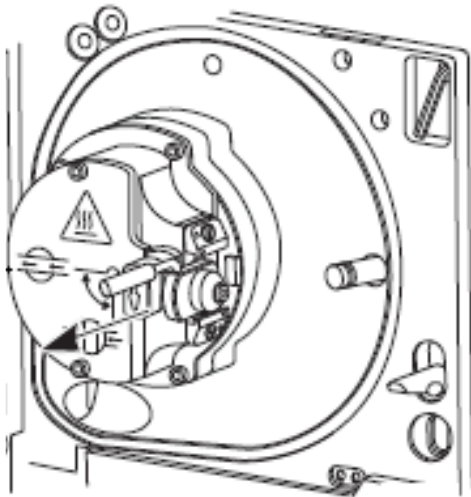

Figure 3: Removing the sample cone assembly from ion block assembly.
- Slide out the sampling cone assembly out of the ion block assembly using the cone gas nozzle handle (see Fig. 3)